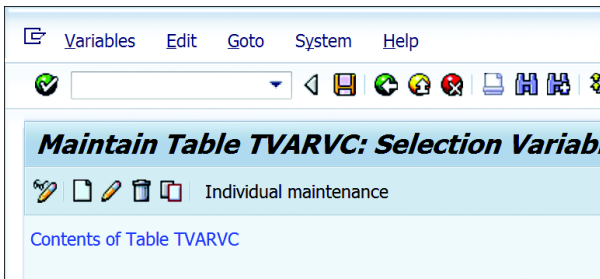

Figure 14.7 Transaction STVARV Initial Screen
2. Go to change mode by clicking the DISPLAY/CHANGE button, then click the CREATE button in the application toolbar (see Figure 14.7).